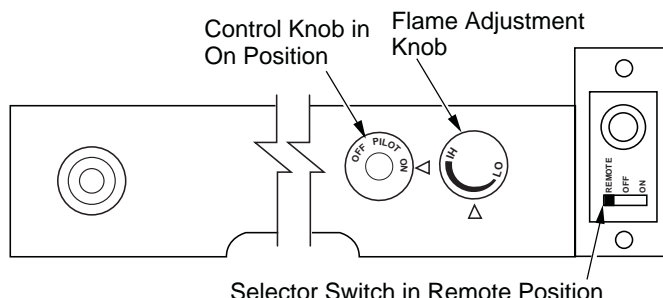

Figure 31 - Setting the Selector Switch, Control Knob, and Flame Adjustment Knob for Remote Operation
7. Slide the selector switch to the REMOTE position (see Figure 31). **Note:** The burner may light if hand-held remote was on when selector switch was last turned off. You can now turn the burner on and off with the hand-held remote control unit.